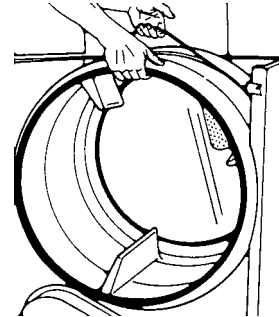

Fig. 42
3. Remove the drum and belt from the cabinet. (Fig. 42)